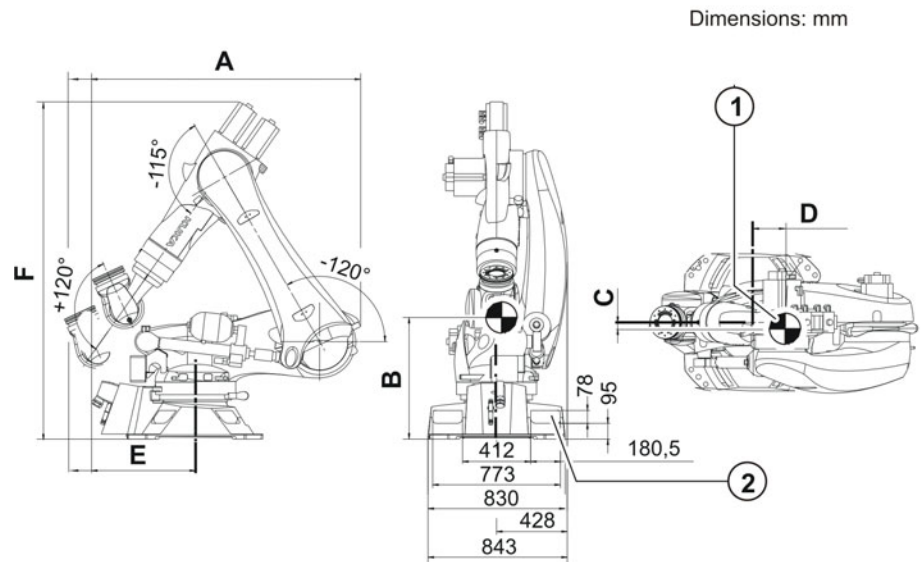

Fig. 4-16: Transport dimensions
The transport dimensions (>>> Fig. 4-16) for the robot (1) can be noted from the following diagram. The position of the center of gravity (2) and the weight vary according to the specific configuration. The specified dimensions refer to the robot without equipment. The following diagram shows the dimensions of the robot when it stands on the floor without wooden transport blocks.